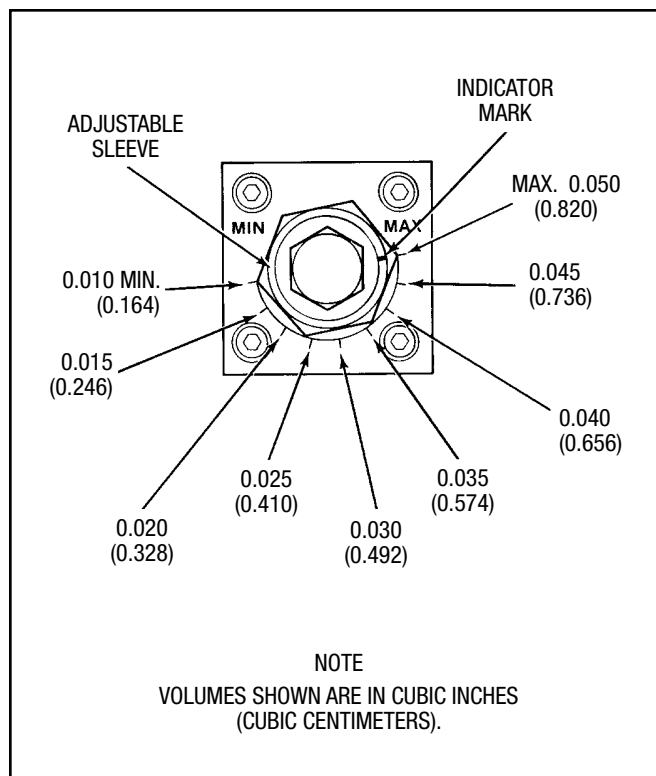

Figure 3-5. Standard Pump Adjustment
- c. Adjust the pump output for the desired displacement as shown in Figure 3-5. (Standard pump only.)